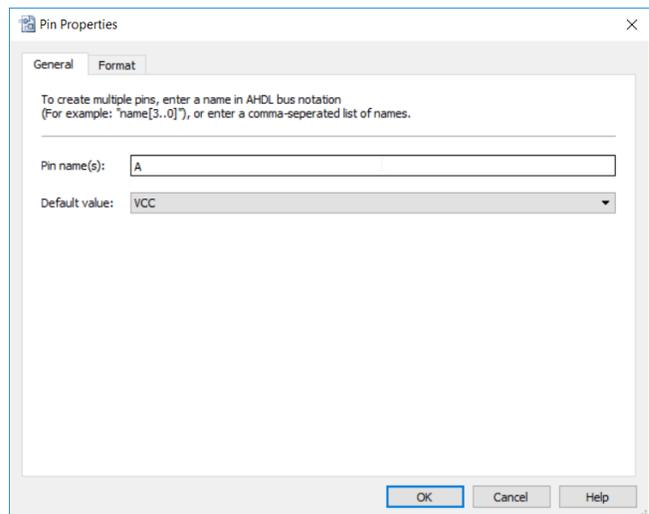

Figure 16. Pin Properties dialog box.
12. Right-click on the top most input pin and click on Properties. We should see a Pin Properties pop-up dialog box (Figure 16).
13. Rename the pin name as **A**. By default, the default value will set to VCC if not, select VCC as shown in Figure 16. Click .